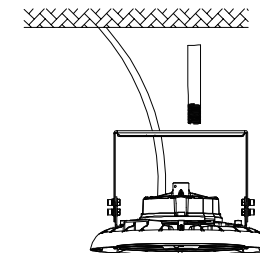

Figure9
2. Insert 1/2" NTP stem into the bracket hole(Figure9)